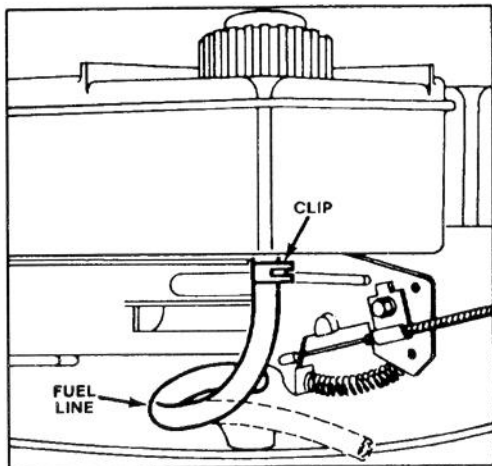

Figure 12
2. Squeeze ends of fuel line clip (Fig. 12) and slide clip down fuel line. Carefully pull fuel line off fitting and allow gasoline to flow into drain pan (Fig. 12).